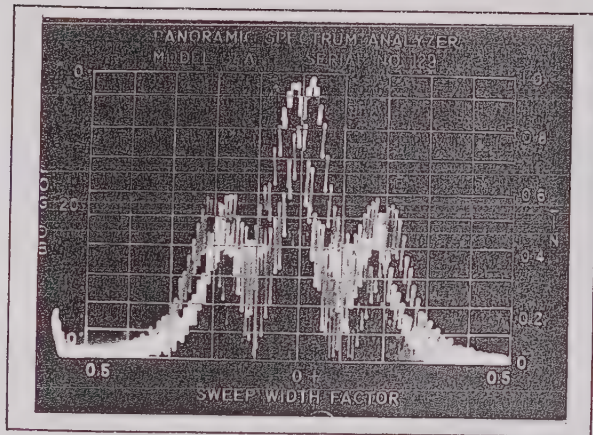

Figure III-24. Screen Presentation Showing Microphonic Effects.
(1) Set the SPA-4a controls as listed in paragraph III-1b. (MARKER - OFF).
(2) Connect the signal to be tested to the appropriate INPUT connector on the SPA-4a.
(3) Rotate the TUNING knob until the signal under test appears at the center of the Indicator screen.
(4) Adjust the SWEEP WIDTH control until a suitable display of the signal is present. Microphonic content can be identified as noise or distortion of the signal under test. See Figure III-24.